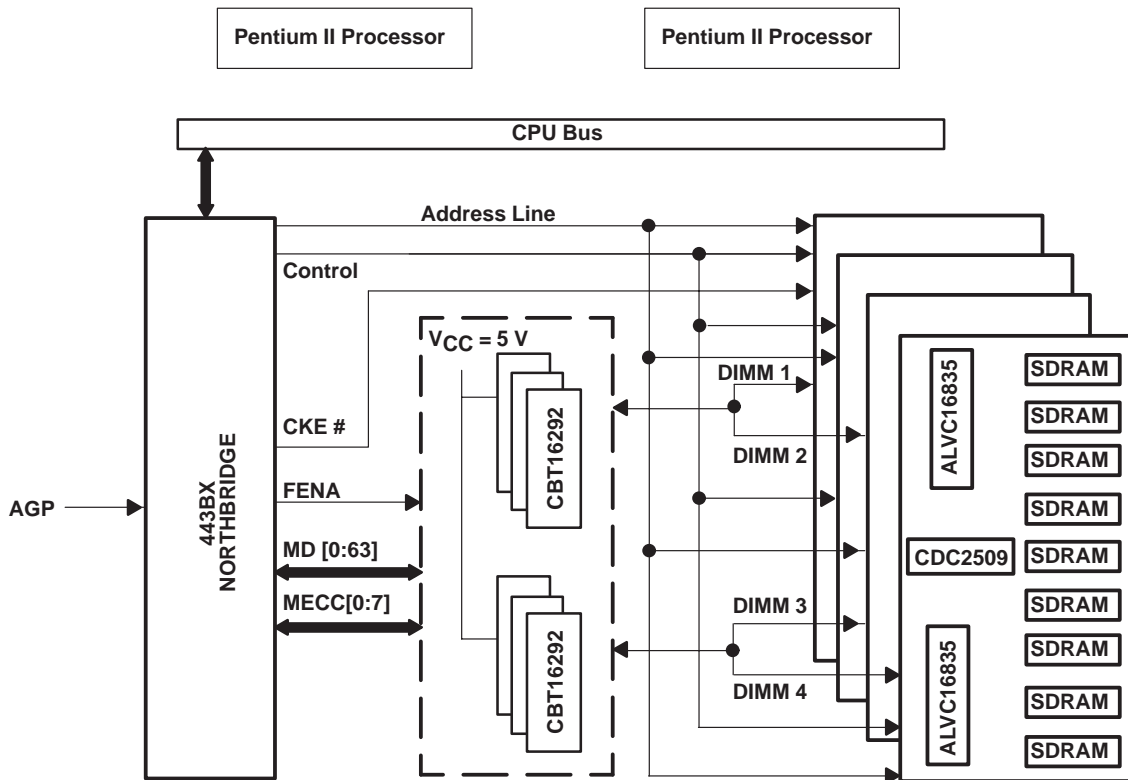
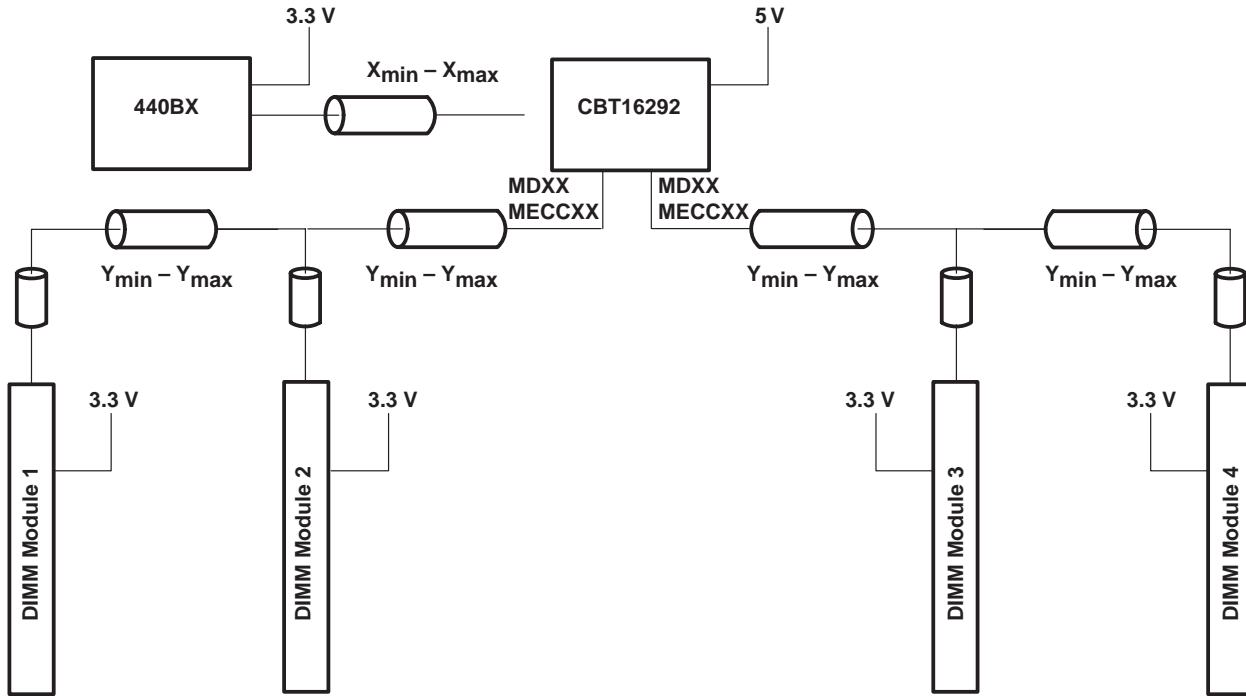

Figure 16. CBT16292 in a Four-DIMM Memory-Switching Application
Figure 17. Typical Motherboard Layout Using CBT16292
The BX controller supplies two copies of memory address (MA) for effectively driving the address load and optimizing strict timing requirements placed on it by the 100-MHz address bus. The controller also supplies the FET-enable signal (FENA) to enable CBT switches. For the data bus to offset heavy loading to the data-in/data-out (DQ) line with the additional fourth DIMM, the CBT16292 (12-bit to 24-bit mux/demux with internal 500- Ω pulldown resistors) is recommended. This reduces the loading to the data bus. To the memory controller it looks like there are only two DIMMs instead of four. Figure 16 shows the application of the CBT16292. With error correction code (ECC), six devices are needed to buffer the 72-bit signals. This task also can be accomplished by using CBT162292, CBTLV16292, or CBTLV162292 devices.
Figure 16 shows that the CBT16292 plays an integral part in the overall memory solution. Layout and routing should be taken into account. Determining the optimal line length depends on different simulation methods that can accommodate strict timing requirements of a 100-MHz bus. Figure 17 is an example of a typical motherboard layout integrating CBT16292 for four DIMMs. This layout also shows that, by using the CBT16292, the design is more effective because there can be equal load distribution, which can minimize skews.
To further optimize the layout and design shown in Figure 17, the CBTLV16292 and CBTLV162292 also are available. By using these 3.3-V FET-switch parts, all three parts of the memory solution are on the same power plane, and performance is not sacrificed.